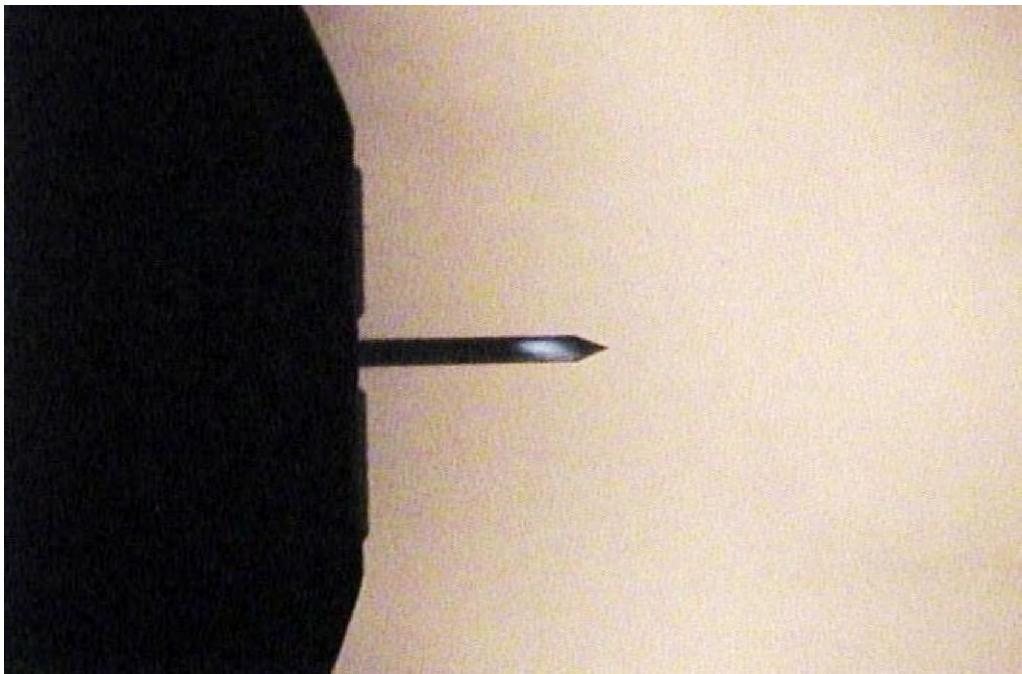

Figure 5.19 Focus on the Cantilever
- 4.** Click the video button on the Igor status bar to open the Video window (See Figure 5.19).